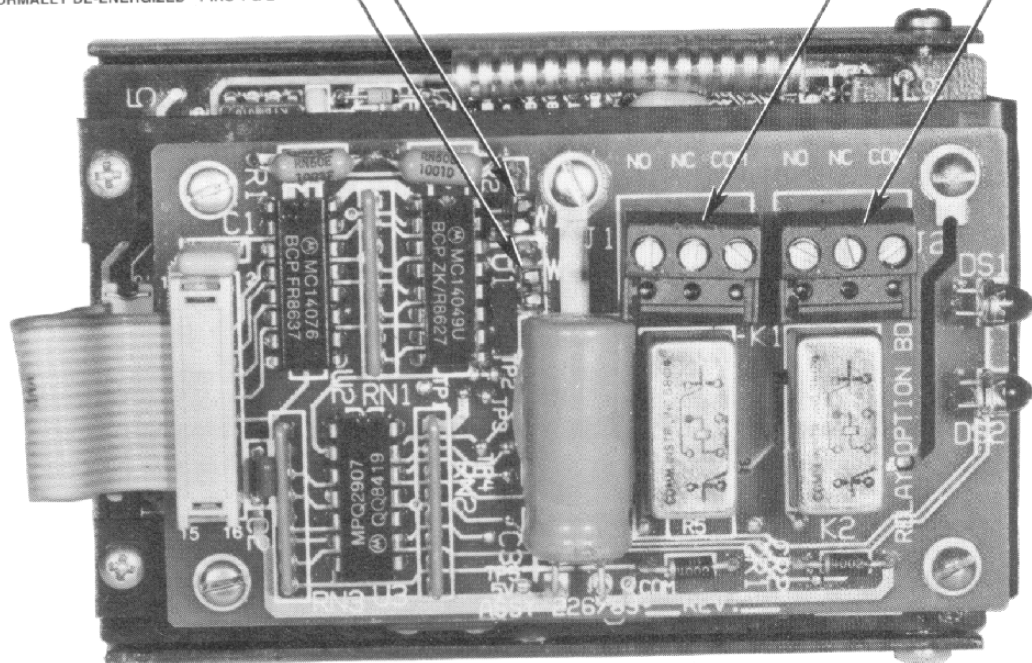

Figure 7—Relay Wiring Terminals and Programming Jumpers
9. See Figure 7 for connecting external loads to the relay outputs.
11. The relays are programmed for normally energized or de-energized operation by placing jumper plugs on the appropriate pins at locations W1 and W2 on the relay board. W1 controls Relay no. 1 and W2 controls Relay no. 2. For normally de-energized operation, place the jumper across pins 1 and 2. For normally energized operation, place the jumper across pins 2 and 3. See Figure 7.